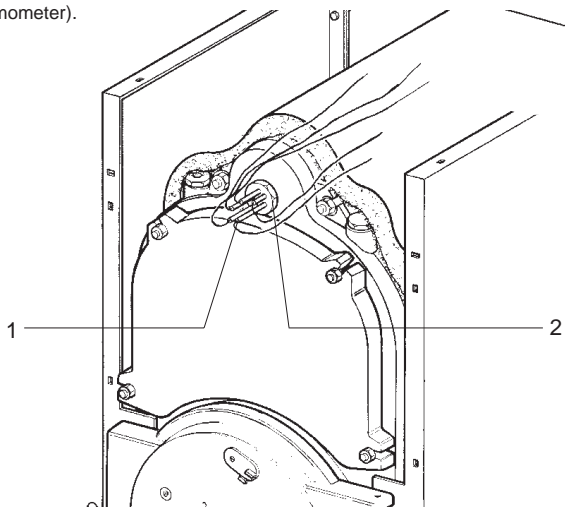

Fig. 34
5.12 (Fig. 34) Overturn the capillary tubes and insert the 3 probes 1 into sheath 2 (- adjuster thermostat - safety thermostat - thermometer).